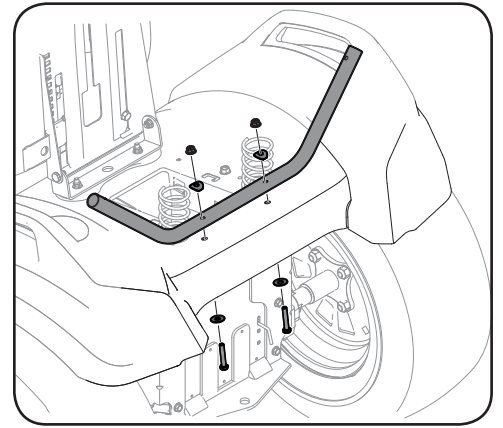

Figure 3-5
- Use two flange lock nuts (#10), two saddle washers (#9), two flat washers (#14) and two hex screws (#13) to mount the rear support (#1) to the frame of the tractor as shown in Figure 3-5.